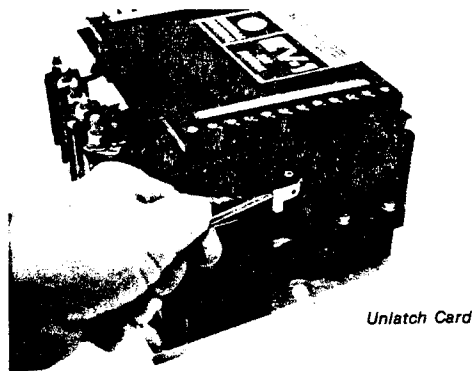

Fig. 11.
- c. Pry open the latches carefully with a screwdriver as shown in Fig. 11.